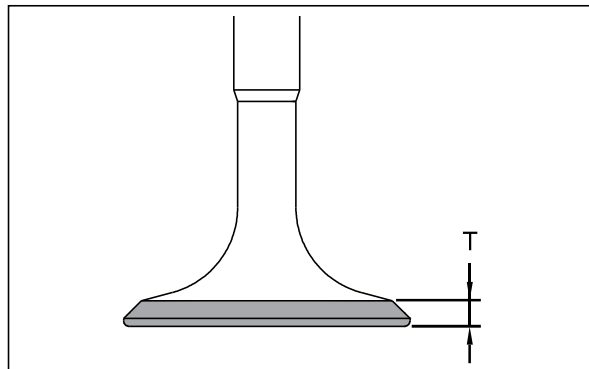

Fig. 3.70
- Measure the thickness of valve head. If the thickness is less than the service limit, replace the valve with a new one. (Fig. 3.70)